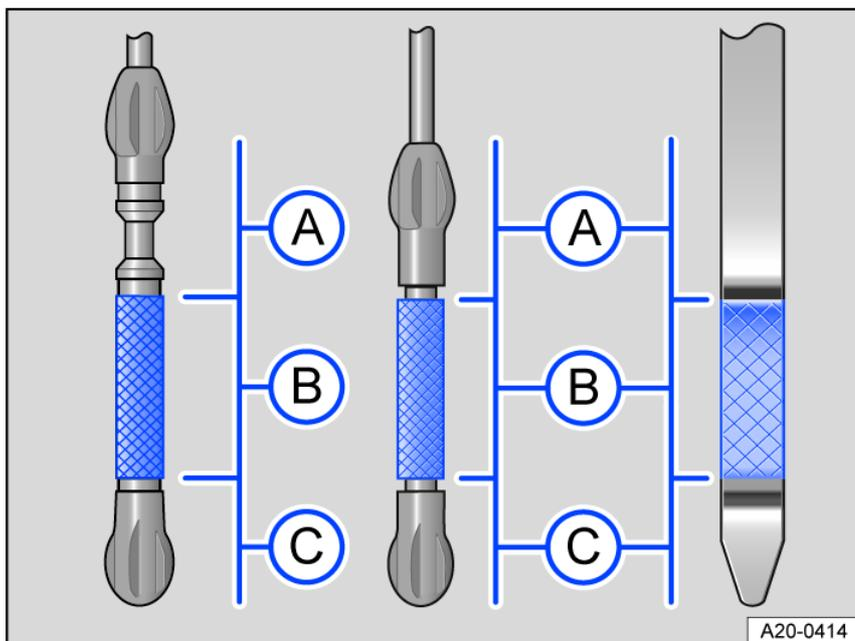

Fig. 202 Engine oil level markings on the oil dipstick (versions).
3. Remove the dipstick again and read the oil level on the dipstick as described below *fig. 202*:
5. When you are done adding oil, the oil level should be in the center of area *fig. 202* Ⓑ. The engine oil level must not be in the area *fig. 202* Ⓐ.
6. If you accidentally add too much oil and the oil level is in area *fig. 202* Ⓐ, do not start the engine. Contact an authorized Volkswagen dealer or authorized Volkswagen Service Facility for assistance.
- If the oil level is in the *fig. 202*  range, do not start the engine, and contact an authorized Volkswagen dealer or authorized Volkswagen Service Facility.